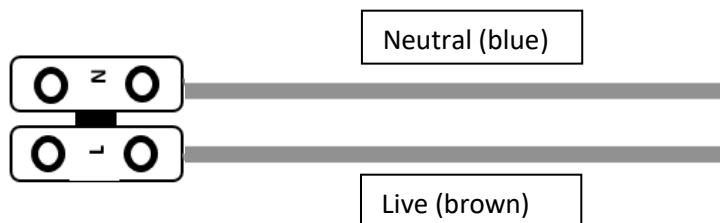

Fig. 3
- Connect the Live (brown) and Neutral (blue) to the terminals on the terminal block (see Fig. 3)